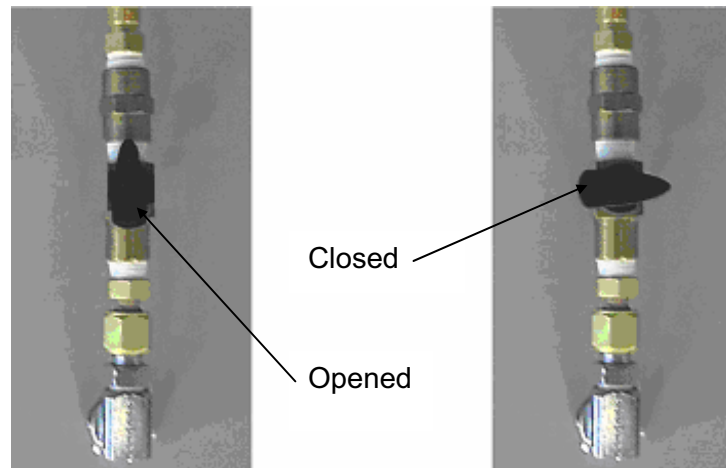

Figure 6.1: PSA Enclosure Supply Valve Assembly
8. Put the supply valve in the closed position (See Figure 6.1).
There is a small hole drilled in the supply ball valve to allow a controlled amount of gas to flow into the tank receiver when the valve is in the closed position. Figure 6.1 illustrates the opened and closed position of this valve.